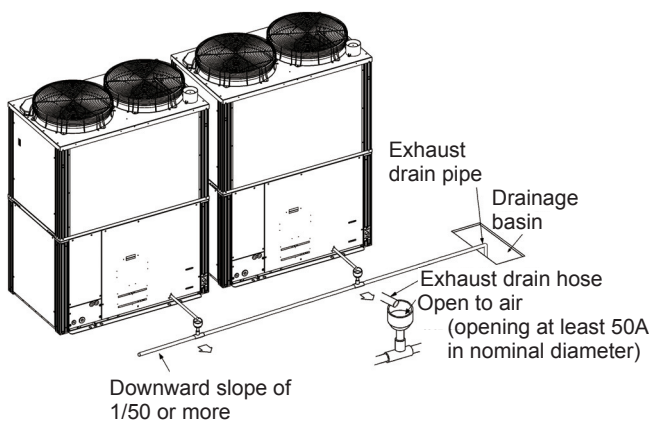

Fig. 13 Draining the exhaust into a drainage basin
- If connecting the outdoor unit's exhaust drain to a covered drainage basin or gutter, or draining multiple outdoor units to the same location, be sure to configure the pipes (as shown in Fig. 13) so that exhaust gases are discharged into open air. (Make sure that the opening in the receiving drain pipe is at least 50A in nominal diameter.) Exhaust gases flowing into the building or indoor/outdoor units may result in poisoning or corrosion of the unit.
- Slope the drain pipe at a gradient of 1/50 or more, and do not taper the pipe diameter (Fig. 13, 14). In addition, do not create any traps or peaks in the pipe.